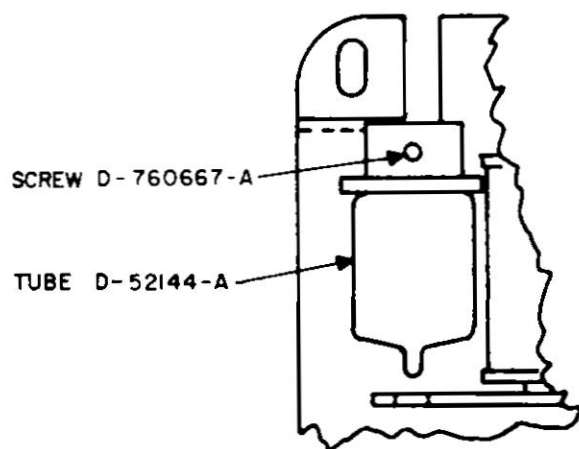

Figure 2. Tube Mounting for Superimposed Ringing.
greater climatic protection). The ringer capacitor, on the ringer assembly (Figure 1), is replaced by a cold cathode tube when superimposed ringing is desired (Figure 2). The ringer unit also contains a terminal strip where the ringer wiring, telephone line cord, and station wires (from the station protector) are connected. This terminal strip eliminates the need for a line cord connecting block.
3.01 To assemble the Type 33 ringer unit, fasten the ringer assembly to the baseplate with the three mounting screws provided. To install the tape-wrapped, epoxy end-filled capacitor, attach the spade-ended terminals of the capacitor to the desired terminals of the terminal strip and fold under. For superimposed ringing, mount the cold cathode tube on the baseplate (Figure 2) using the self-tapping screw provided.